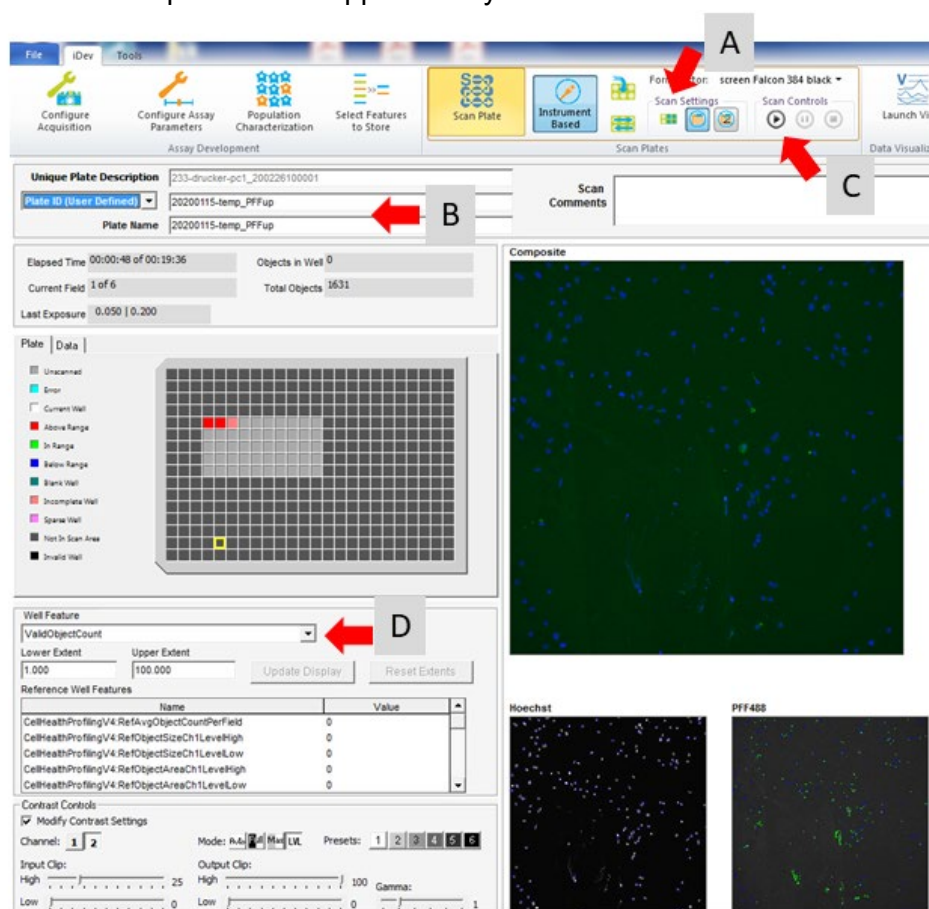

Figure 10. Scan Plate tab. A) Well selection. B) Insert plate name. C) Start scan. D) Well feature selection.
13. In the **Population Characterization** tab, **Scan Limits** should be set to define the number of fields scanned per well. The maximum fields for 384-well plates is 9 (**Figure 10, arrow**). With 4,000 cells seeded per well, 6 fields are sufficient to image more than 1,000 cells/well.